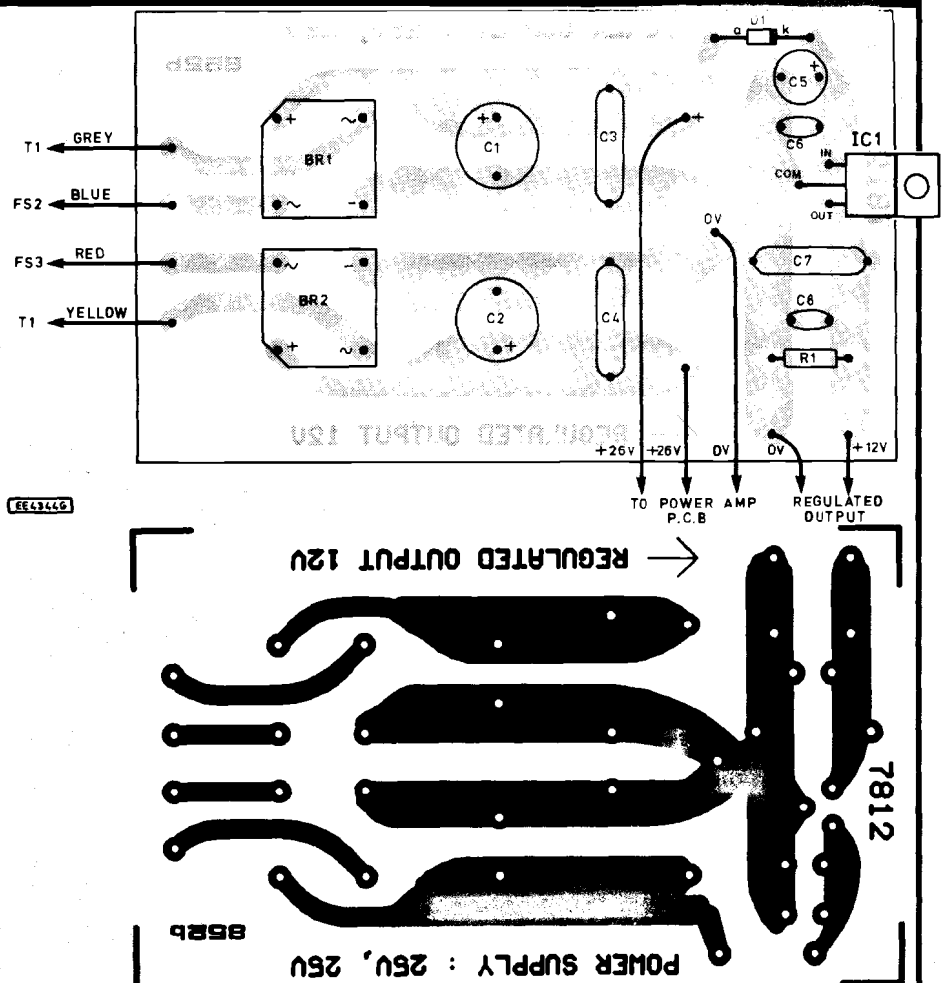
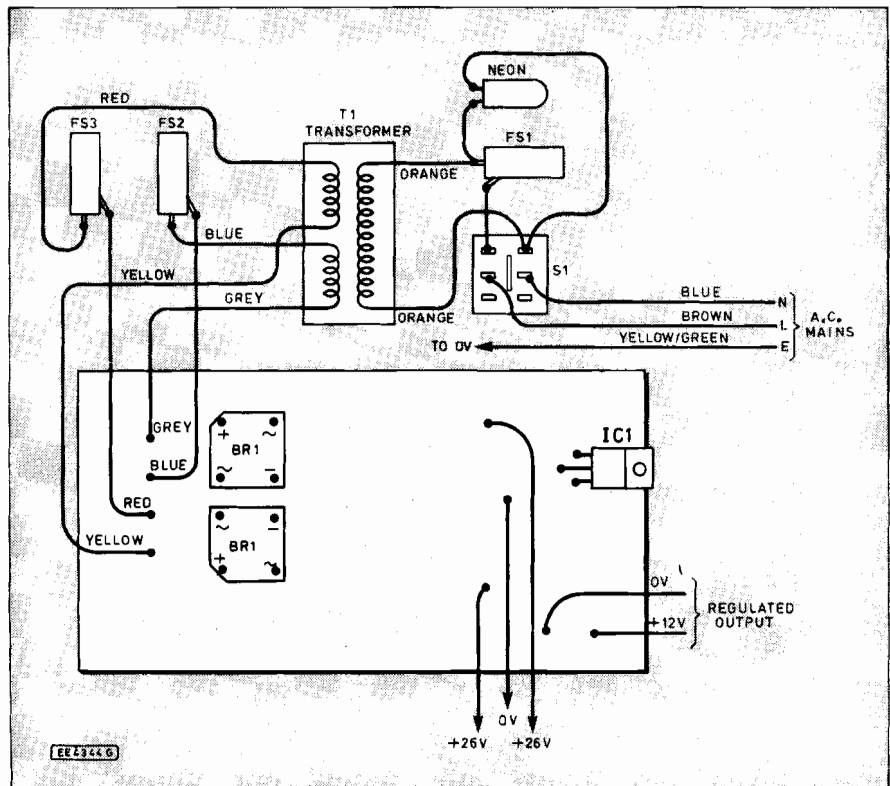

Fig. 6. System Power Supply printed circuit board component layout and full size underside copper foil master pattern.
Fig. 7. Interwiring from the circuit board to the toroidal mains transformer and other off-board components.
The Power Supply printed circuit board topside component layout and full size underside copper foil master pattern is shown in Fig. 6. This board is available from the *EPE PCB Service*, code 852b.
Begin construction by soldering in the smallest components, such as small capacitors, diode D1 (the correct way round) and the resistor. Be careful to fit the bridge rectifiers REC1 and REC2 the correct way round (*in mirror image fashion*) as shown in Fig. 6 and Fig. 7.
The instructions supplied with the transformer should be checked, but it is likely that the orange coloured leads are connected to the 240V primary coil. Connect the mains circuit as shown in Fig. 7, noting that the mains Earth (E) is joined to the metal front panel.